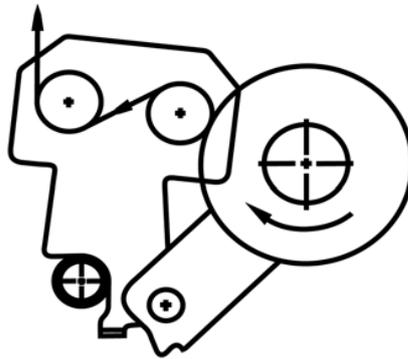

Figure 38. Film-flow diagram – top view
- Drag the film band over the pre-stretchers following the diagram on the information pictogram (Fig. 17, Fig. 38).